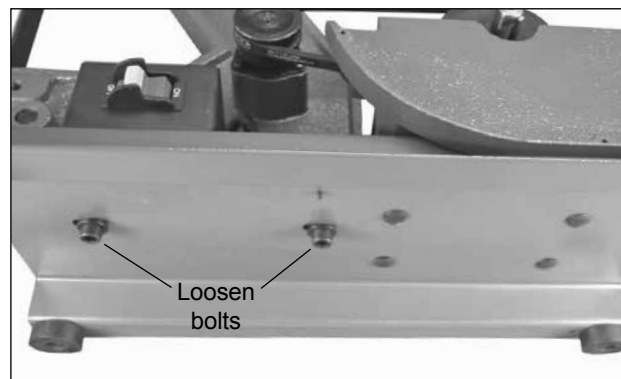

Figure 23
2. Tilt the sander back, and slightly loosen the two hex head Screws (#7) so that the sanding Frame (#64) can be moved a bit forward or backwards to tension the V-belt as shown in figure 23.